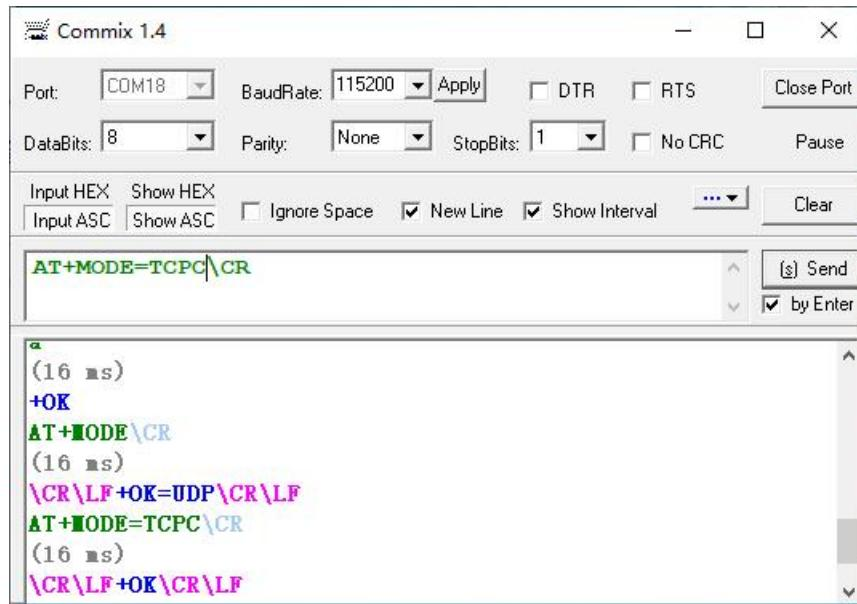

Figure 6-12 AT Command Setting TCP Client Mode
1) Set the module to TCP Client mode with the target port set to 60000. Both AT commands and web pages are available Take AT command setting as an example, as shown in Figure 6-12. For specific AT command mode entry operation, please refer to. AT Instruction Set Section.
2) As shown in Figure 6-12, the receipt of "+ OK" indicates that the module has completed setting the TCP Client mode. Then exit the at instruction Mode, the program automatically returns to passthrough mode.